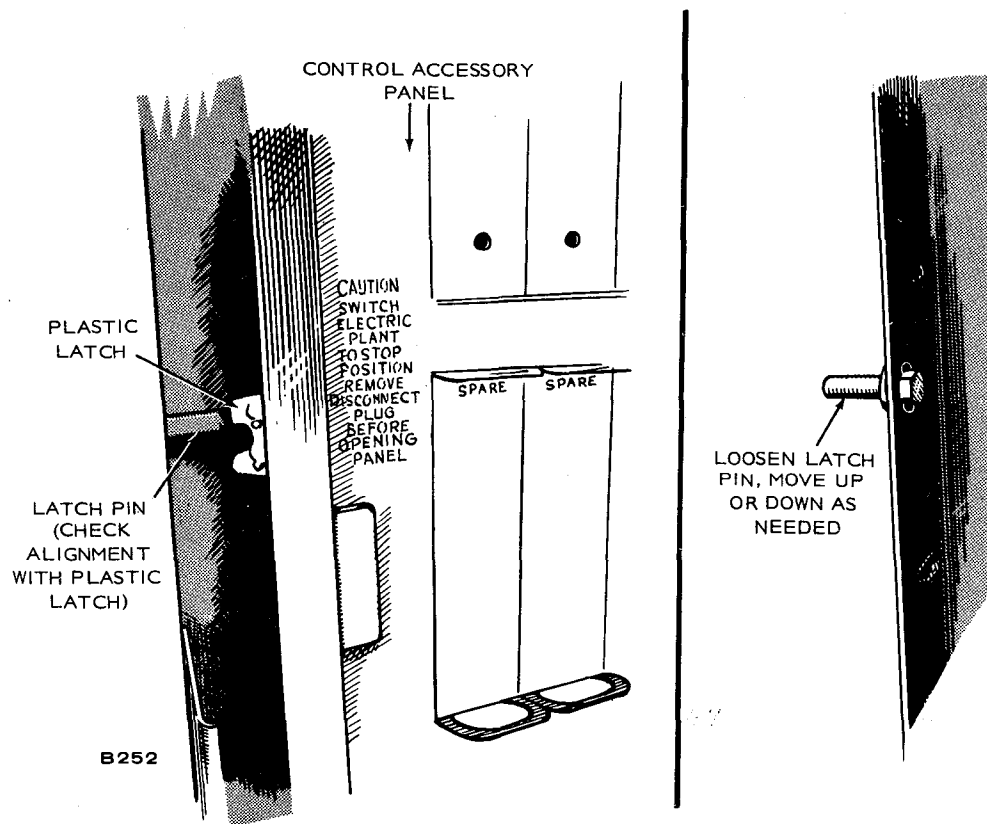

FIGURE 10. ADJUSTMENT OF LATCH PIN
8. Loosen the latch pin on the edge of the meter panel or cabinet center support, whichever applies, and move the latch pin up or down in the slot as necessary (Figure 10). Then tighten.